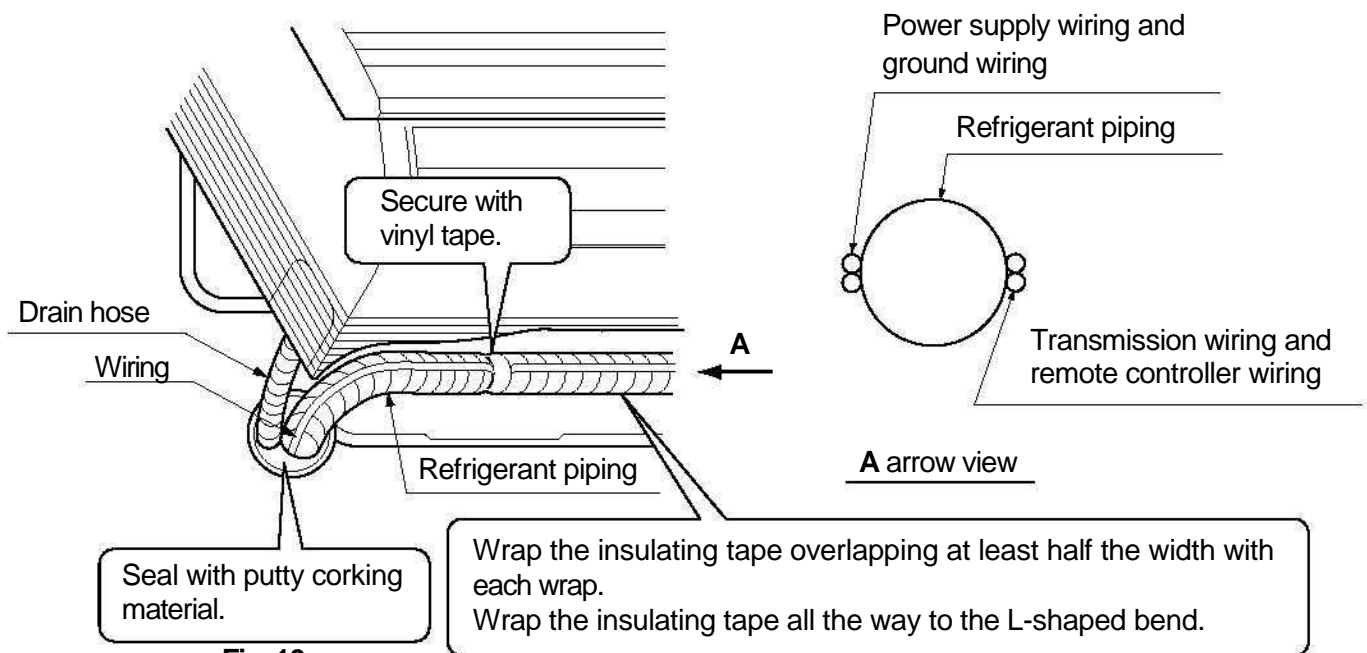

Fig. 10
(7) Pass power supply wiring, transmission wiring, ground wiring, and remote controller wiring through the wiring guide in through the back of the indoor unit and to the front.
(8) Connect the piping. (See "5.REFRIGERANT PIPING WORK" and Fig. 10)